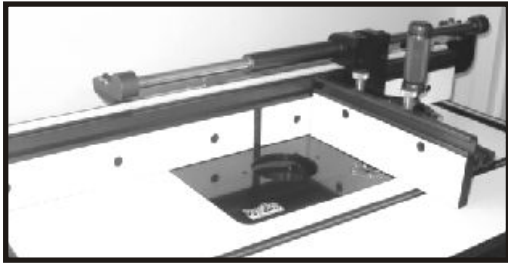

FIG. 13
11. The Mite-R-Slide should now be attached to your Mast-R-Fence with a loose fit (Fig. 13). To begin final adjustments check to make sure the shaft is running parallel to the Mast-R-Fence. You can sight down the length of the fence from above the shaft to see if the shaft is aligned with the fence. Adjust the shaft if necessary and lightly tighten the cap screws on top of each end bracket on the shaft.